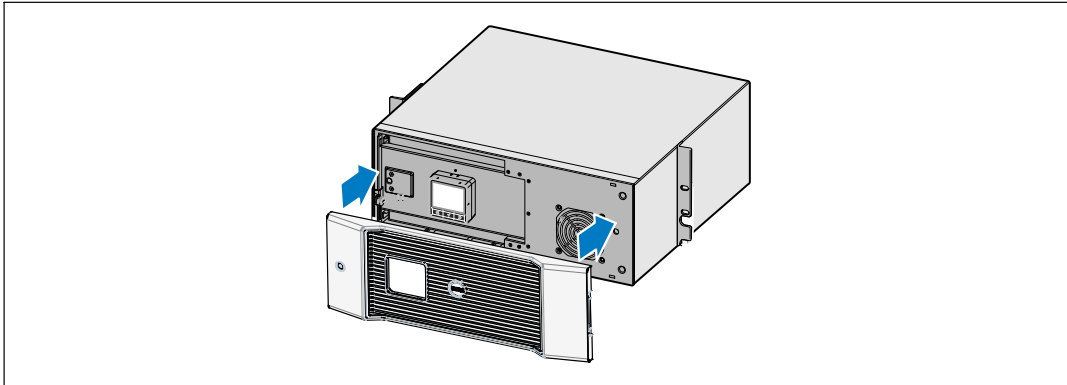

Figure 26. Replacing the UPS Front Cover
- 8 Replace the UPS front cover (see Figure 26).